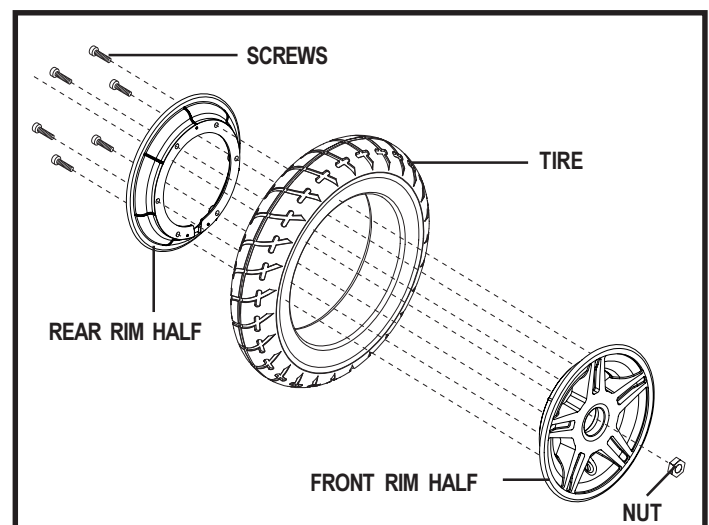

Figure 25. Quantum 500 Drive Wheel
6. Remove the screws that fasten the two rim halves together. See figure 25.